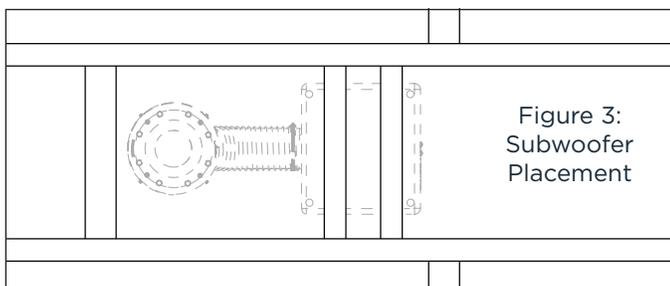

Figure 3: Subwoofer Placement
17. Place the subwoofer into the prepared 2x4 joist location, positioning the PPX subwoofer opening toward the grille location. The PPX subwoofer feet should straddle the 2x4 boards (see Figure 3).